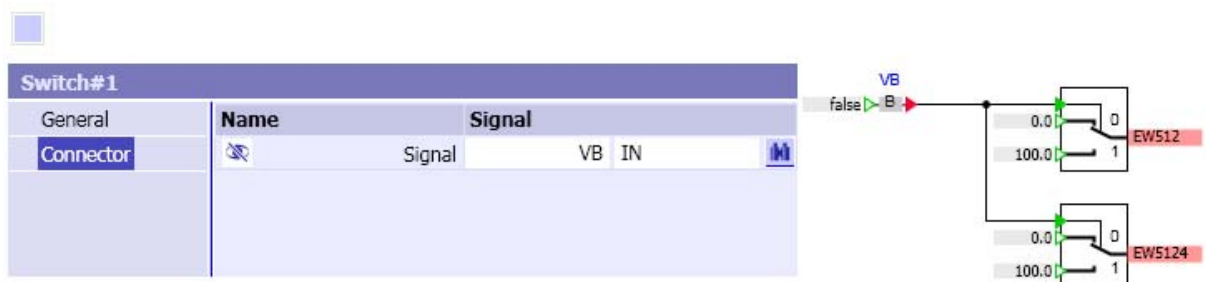

Figure 3-6: Multiple connections to an input element
- An input element, for example a converter, is linked directly to the signal to be set. With the aid of a connector, the input element can influence several components directly. As shown in the example in Figure 3-6, the input signal "IN" of the connector "VB" is linked to the input element.